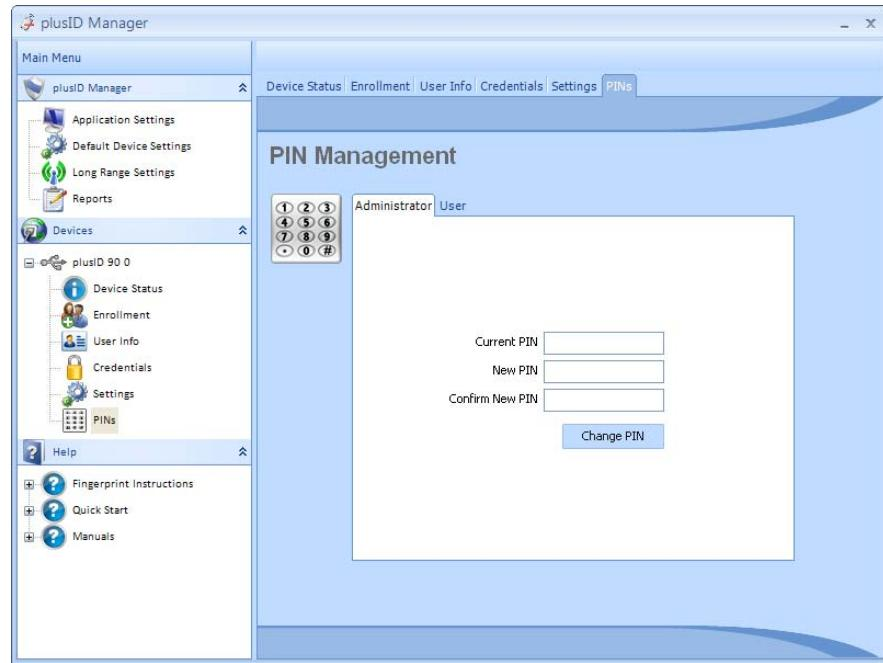

Figure 14
1. Select “PINs” from the main menu tree. The PIN Management screen will be displayed (Figure 14)